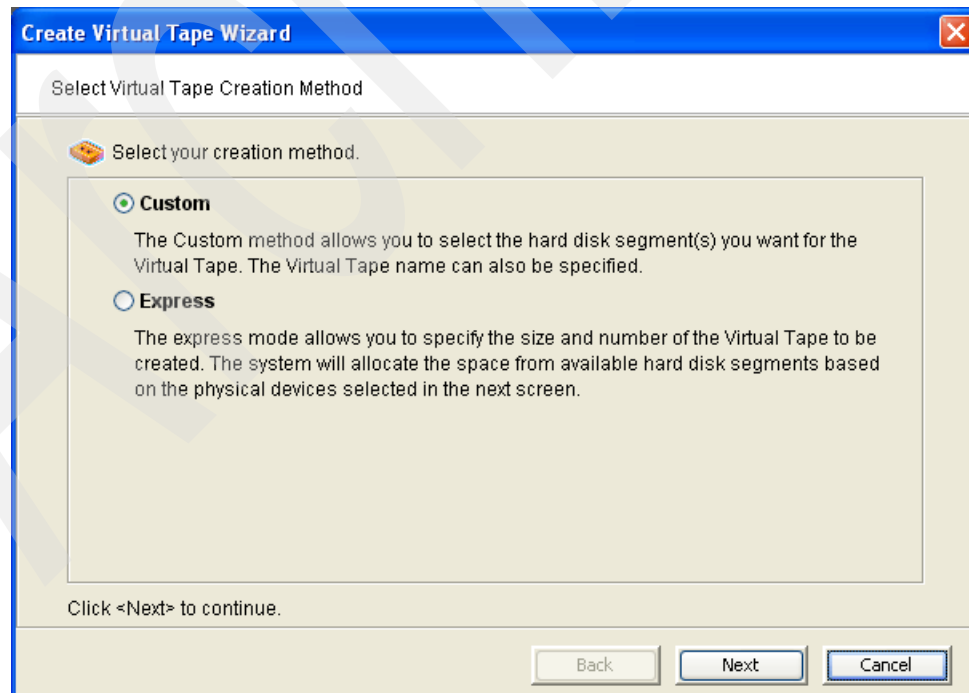

Figure 6-79 Select creation method window
3. In the Select Virtual Creation Method window (Figure 6-79) you can select one of two options: